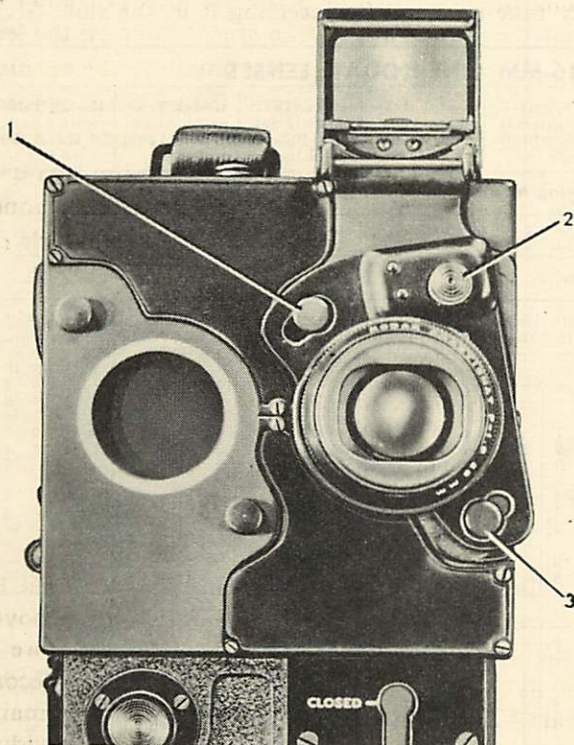
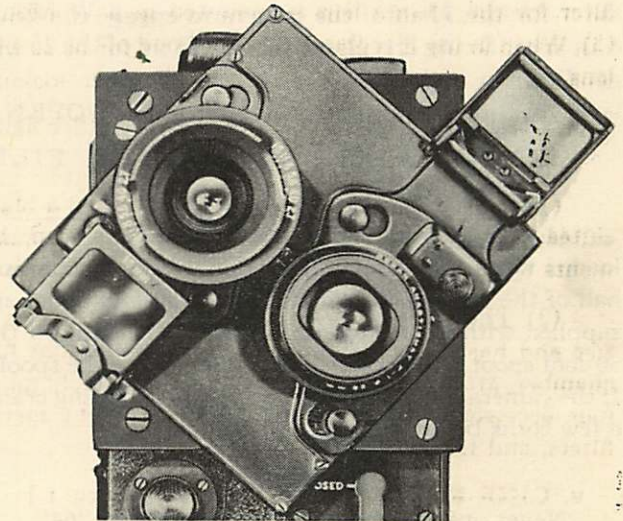

Figure 4—Attaching Lens Mount to Camera
Figure 5—Adjusting Lens Turret
pushing up and to the left on the lock (2, figure 4) so that the plate will be at an angle. Take off the lens hood by inserting the tip of the thumb in the opening and pulling toward the front. Clean both exposed surfaces of the lens with lens cleaning paper or a soft cloth. Replace the lens hood and attach the lens unit to the camera. Clean all lenses in a similar manner before attaching them to the camera. For details on cleaning lenses refer to section V, paragraph 2. a.
(1) After the lenses have been selected, place the lens with its proper adapter over the lens socket in the turret, with the two holes in the adapter plate over the locating studs (1 and 3, figure 4). Press the plate firmly against the turret and turn it to a vertical position. Make sure that the lock snaps into place.
(2) To attach a second lens to the turret, remove the lens hole cap and secure the lens as above.
(3) To revolve the turret, grasp either of the lenses or the turret itself and rotate (figure 5) until the desired lens is on the film chamber side of the camera. The turret must snap into place.